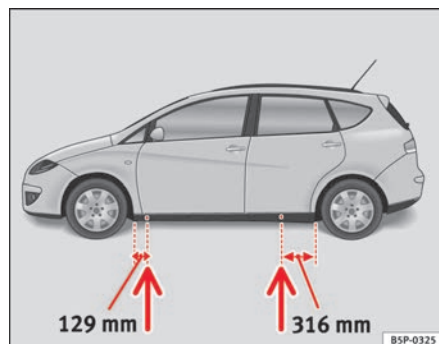

Fig. 178 The jacking points
- Locate the jacking point under the door sill closest to the wheel being changed ⇒ fig. 178.
Recesses at the front and rear of the door sills mark the jacking points ⇒ fig. 178. A position has been made for each wheel. Do not fit the jack anywhere else.